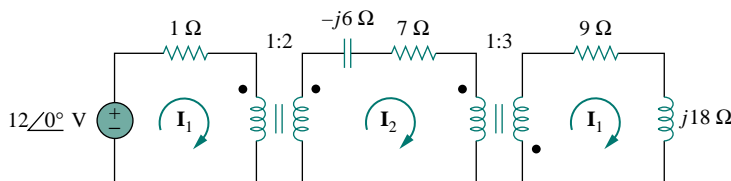

Figure 13.114 For Prob. 13.47.
- 13.47** Find the mesh currents in the circuit of Fig. 13.114 below.